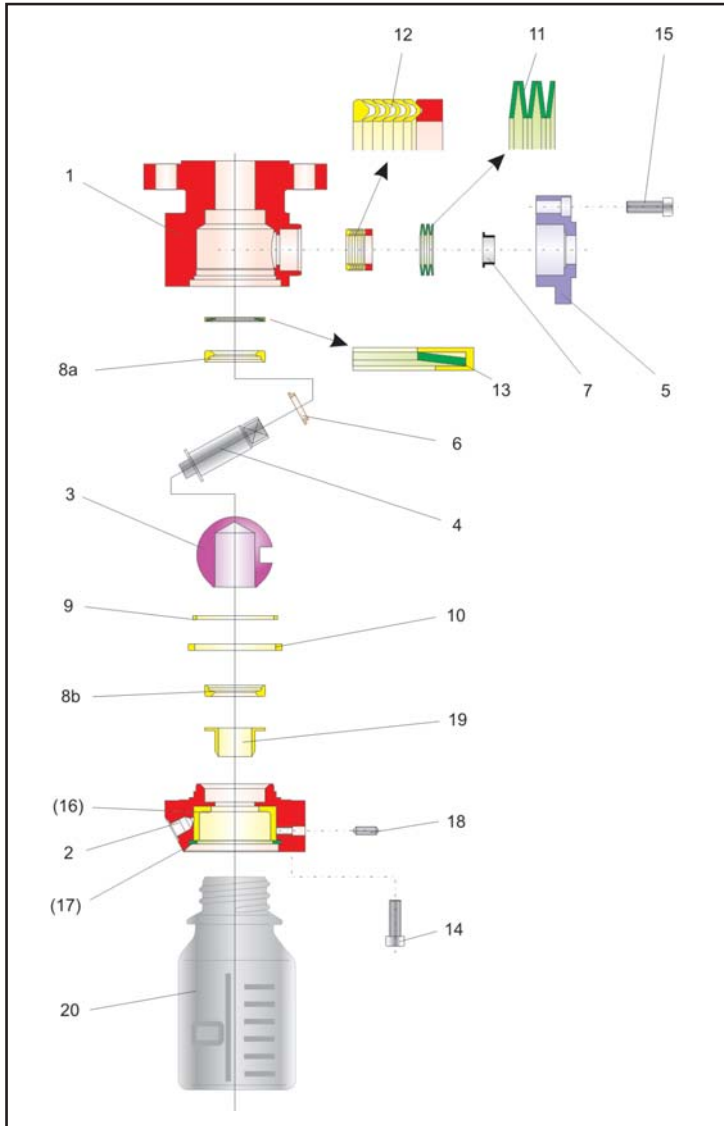

Fig. 3 - Explosion drawing of the sampling valve series 27i
Note: The position and arrangement of the individual parts shown in the explosion drawing (Fig. 3) must be observed when assembling the valve.
The assembly begins with the main body (1). Insert the lined spring washer (13) into the main body (1) The assembly position can be taken from the drawing (Fig. 3).
Refer to the explosion drawing (Fig. 3) for exact positioning of the V-rings.
The spring washers (11) are placed on the V-packing. The positioning of the spring washers can also be taken from the explosion drawing (Fig. 3).